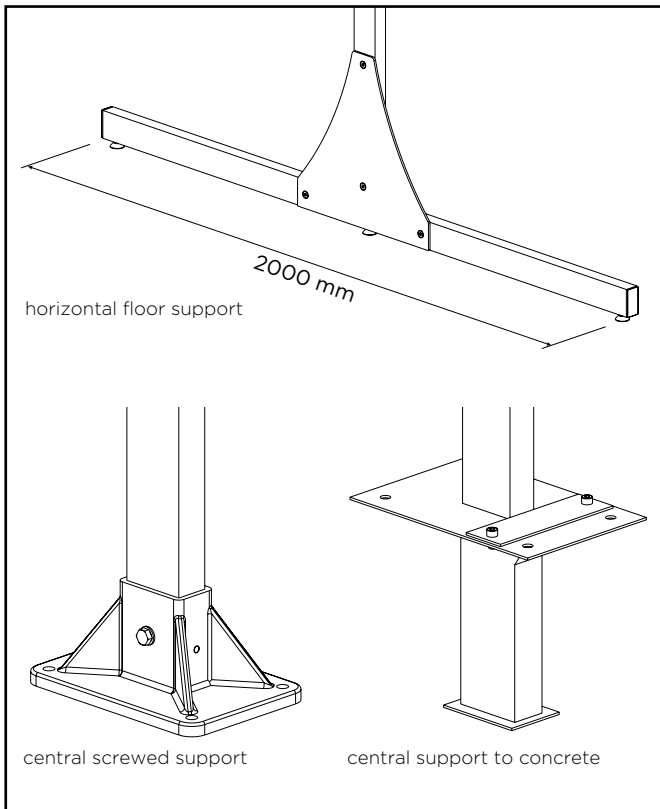

fig. 9 : Floor supports
- Central support to concrete. (See fig. 9)